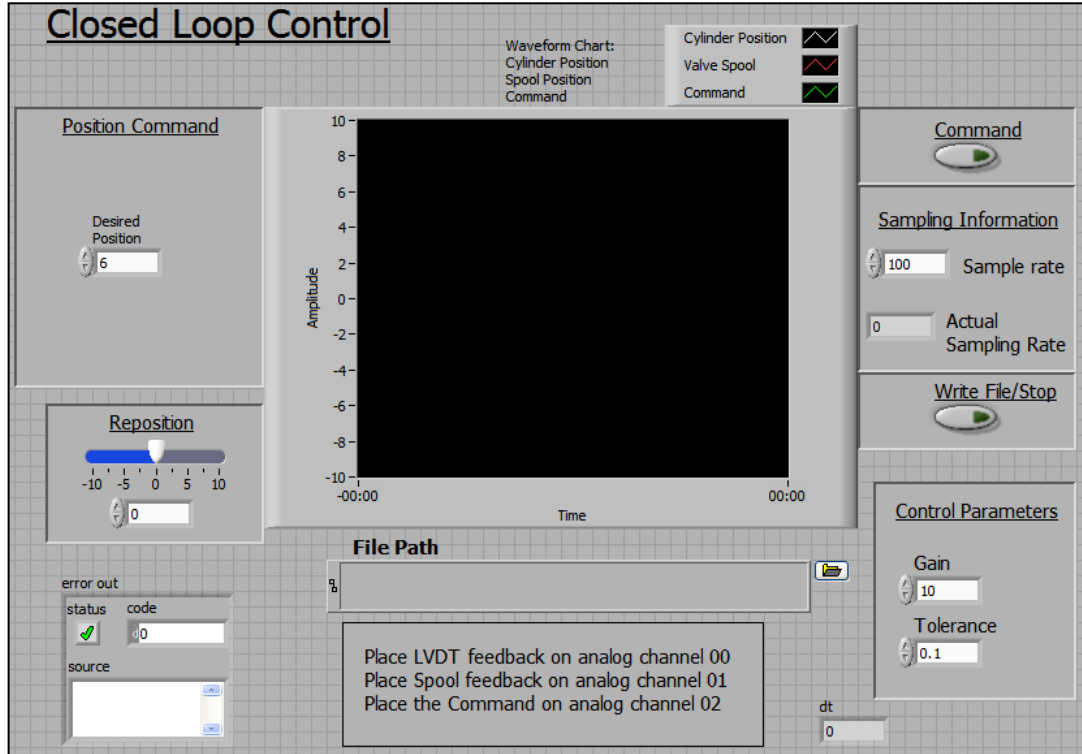

Fig. 1. The Front Panel (Graphical User Interface)
- The front panel of the closed-loop LabVIEW program for *step position changes* is shown in Fig 1. The *Position Command* box on the upper left specifies the desired position of the hydraulic cylinder.